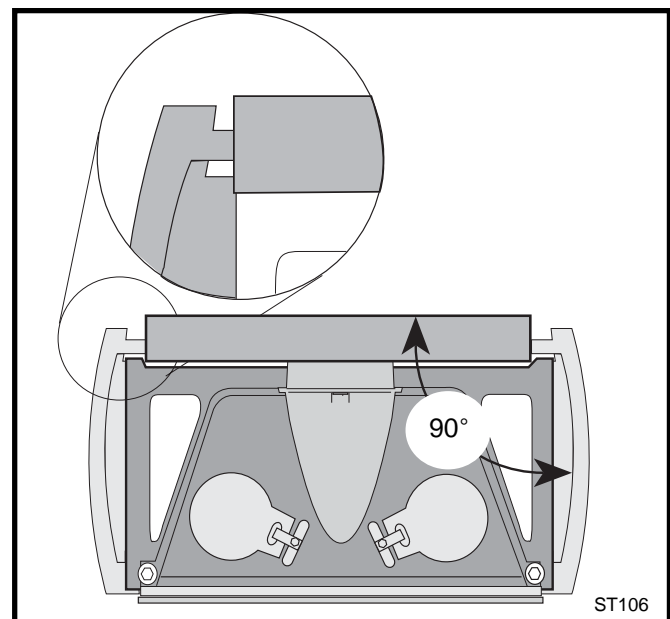

Fig. 15 Align both sides with rear shroud.
2. Attach the Right Side Plate to the Rear Shroud. (Fig. 14) Align the two side plates to be perpendicular to the Rear Shroud as in Figure 15.